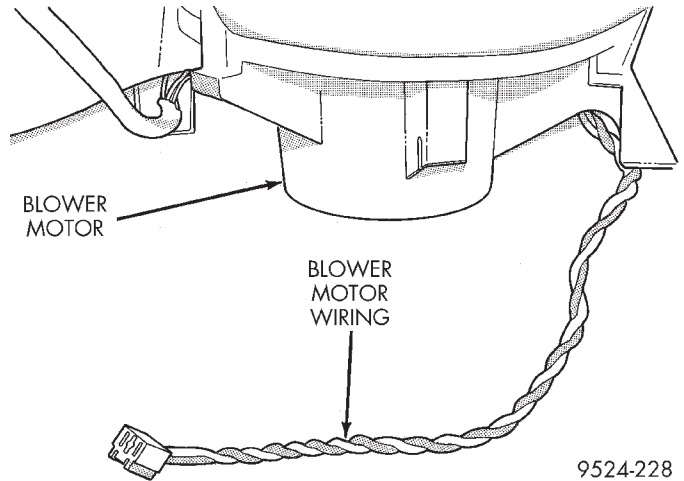
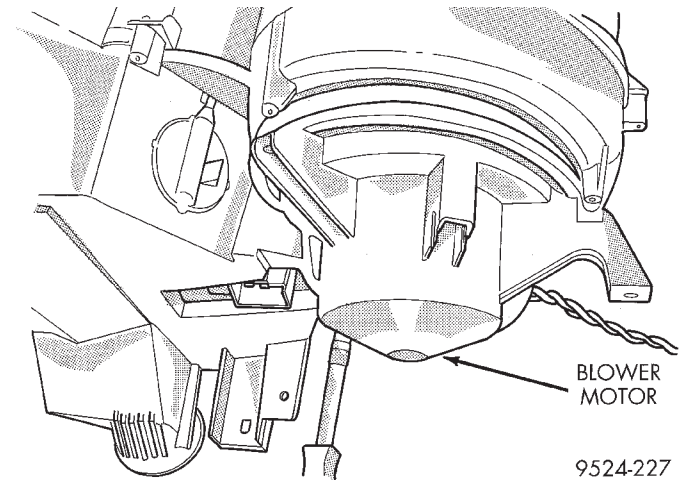

Fig. 13 Blower Motor Wiring
Fig. 14 Blower Motor
- (1) Disconnect battery.
- (2) Remove lower right under panel silencer duct.
- (3) Remove blower motor connector from resistor block (Fig. 13).
- (4) Remove blower motor case retaining screws.
- (5) Lower blower motor case from housing (Fig. 14).
- (6) Remove fan scroll from motor shaft.
- (7) Remove motor from motor case.